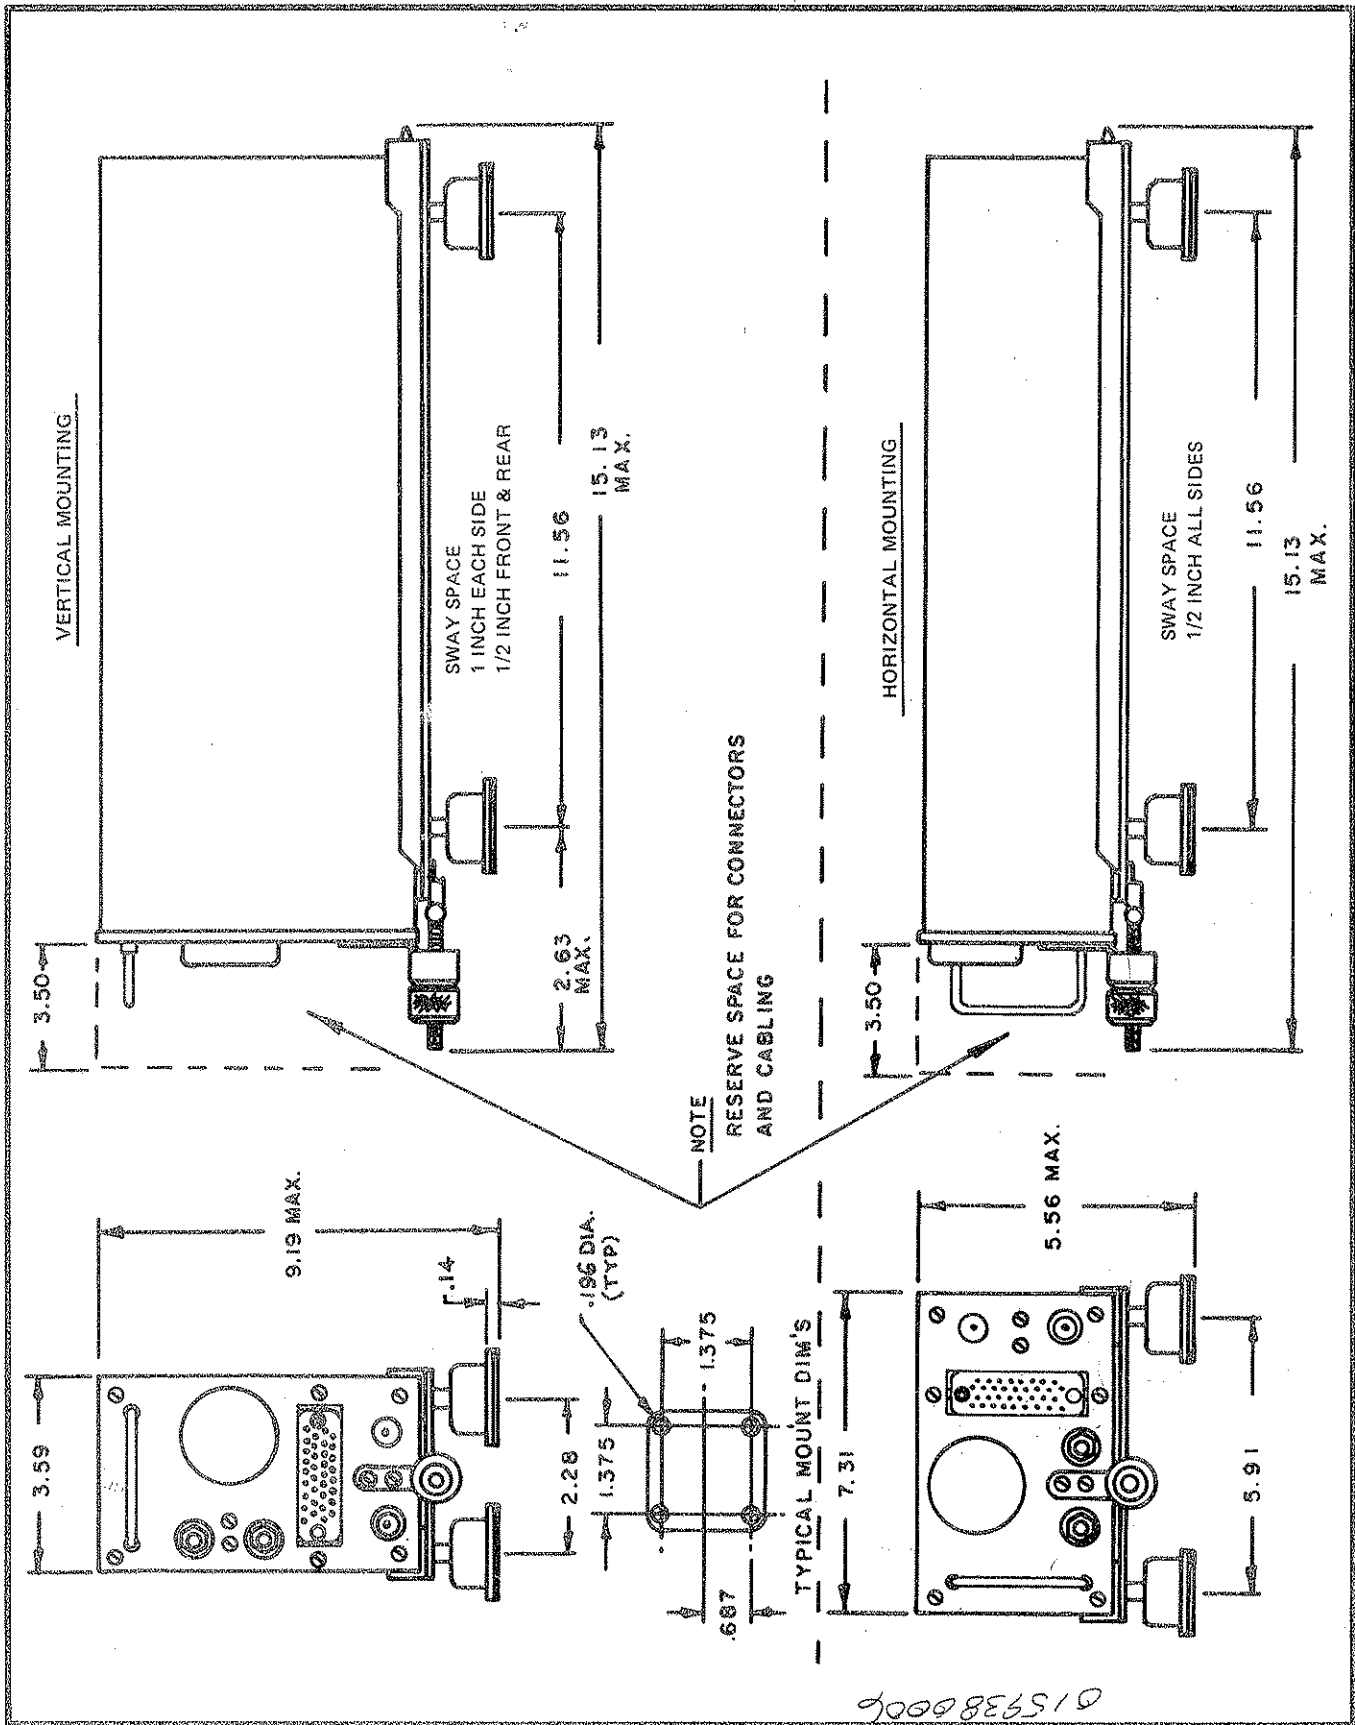

Figure 2.3. Installation Dimensions, RE-1000 Receiver/Exciter
- e) Change location of the retaining hook on the front panel as shown in Figure 2.3